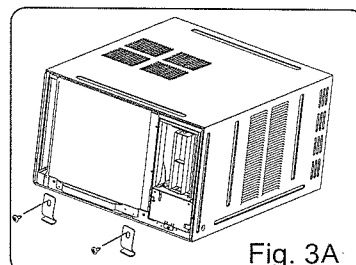

Fig. 3A
- Remove the two screws on the left and right chassis fixing brackets, then remove the two chassis fixing brackets as shown in Fig.3A.
- Fix the screws on the frame (See Fig.3A,3B,3C,3D).